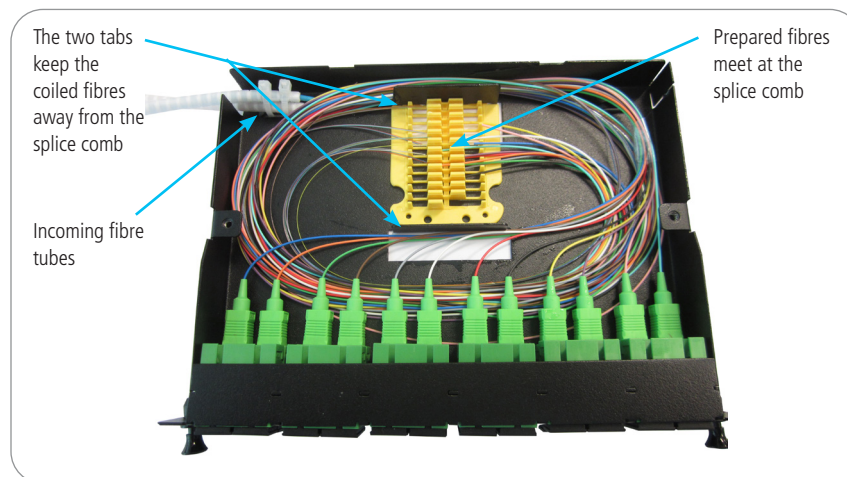

Figure 8.
- Loom the connected pigtails around the cassette twice. A small piece of tape will help manage the fibres and keep them neatly routed. Cut the excess fibre near the centre of the splice comb. Repeat this process for the incoming loose tube fibres. See **Figure 8**.